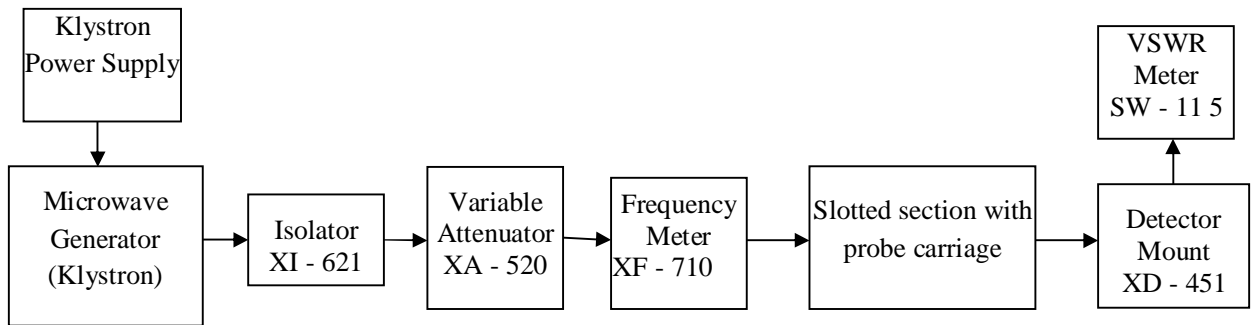

Fig.3.1 Experimental setup to obtain Insertion loss and Attenuation measurement
1. Set up the equipments as shown in Fig.3.1.